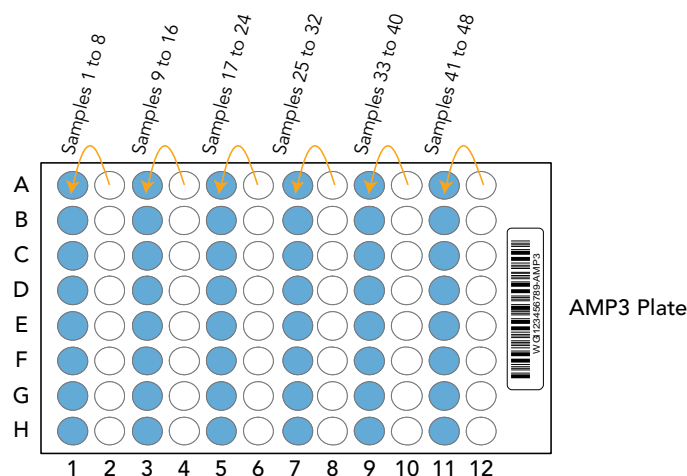

Figure 38 Consolidating Sample Back Into Original Sample Well
4. Combine the two separate wells back into the original well. Refer to Figure 38: